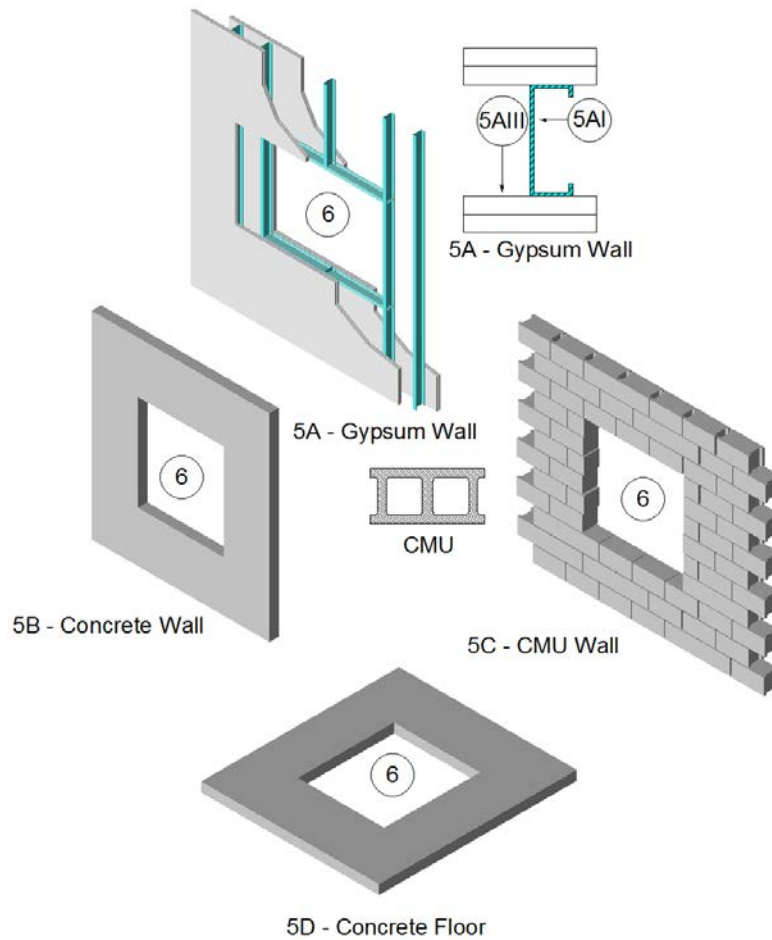

Figure 2. Supporting Construction.
5. SUPPORTING CONSTRUCTION: Refer to Figure 2. Use one of the following wall or floor assemblies: